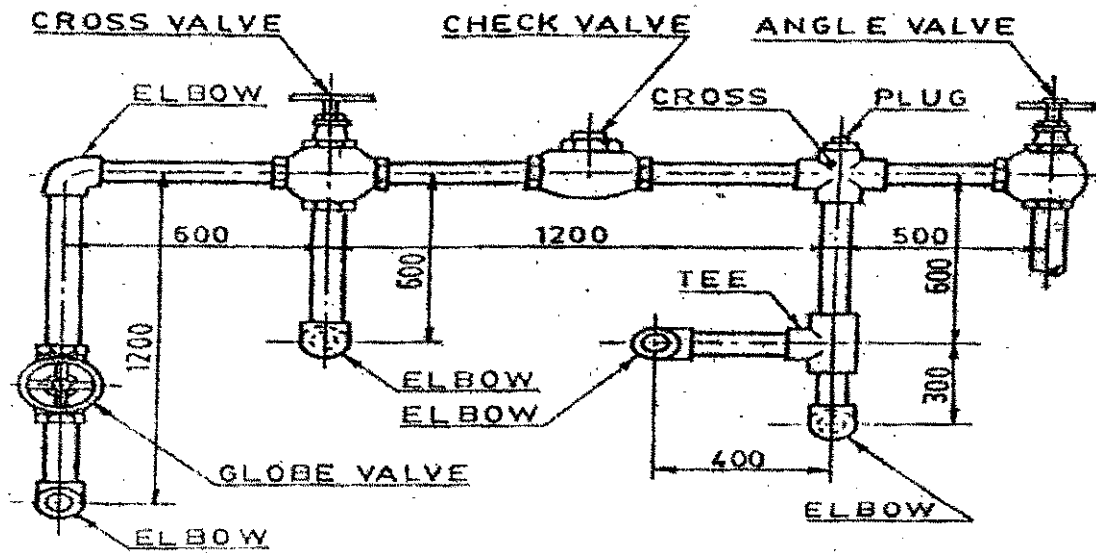

Fig. No. 4
- ii) Fig. No. 4 shows a double line orthographic view of a piping layout. Convert it into single line orthographic layout.